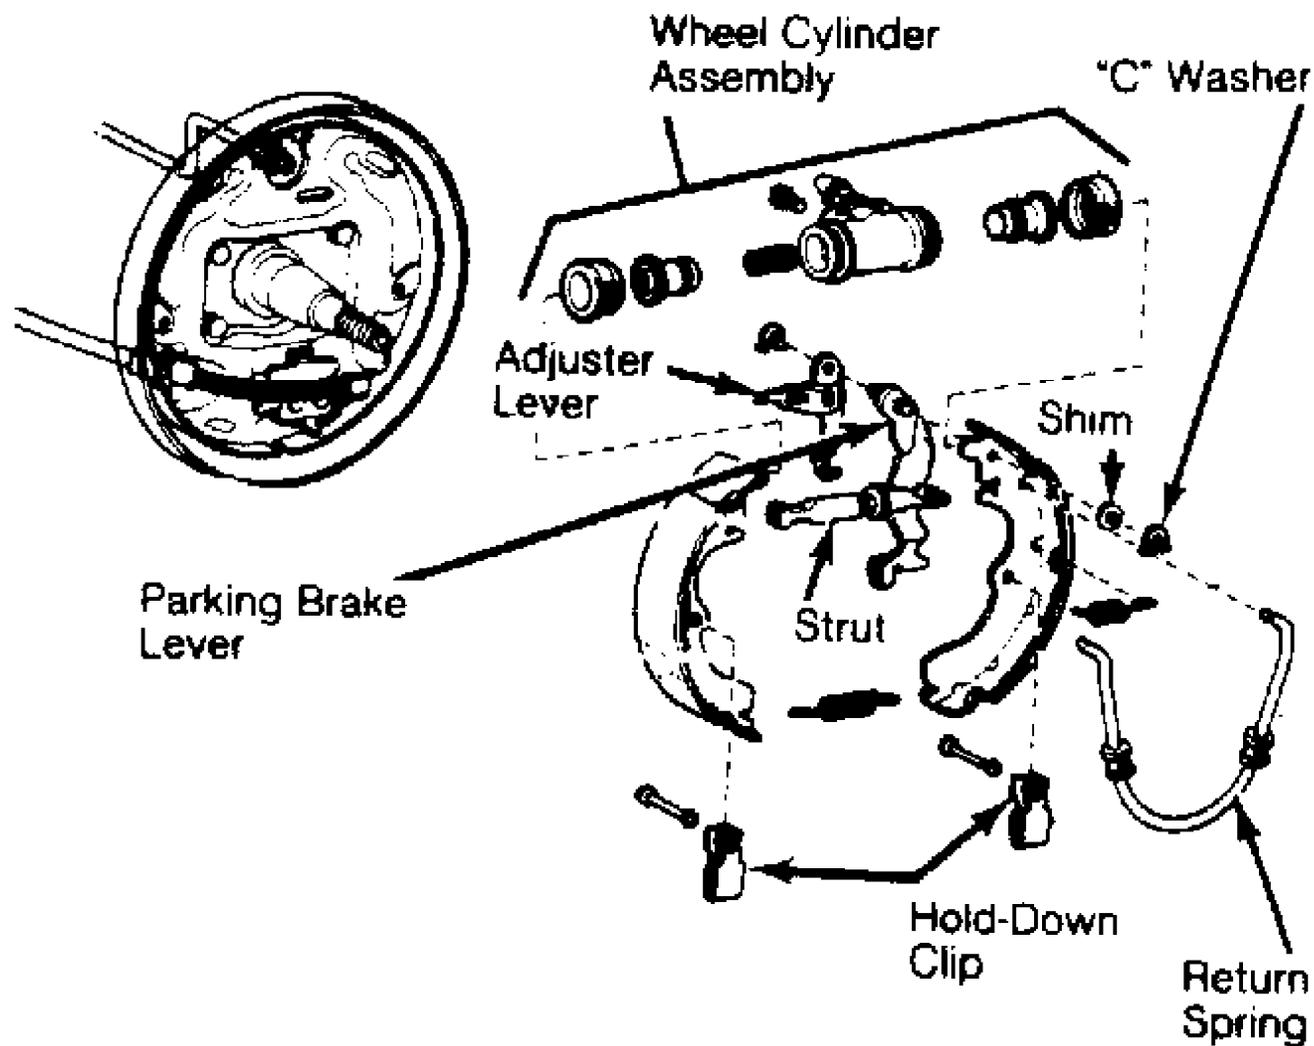

Fig. 6: Exploded View Of Tercel Sedan Rear Brake
2) Remove rear shoe from backing plate. Disconnect parking brake cable from lever. Remove "C" washer, adjusting lever and parking brake lever from rear shoe. Remove "C" washer retaining parking brake lever on adjusting lever and separate levers. See Fig. 6.